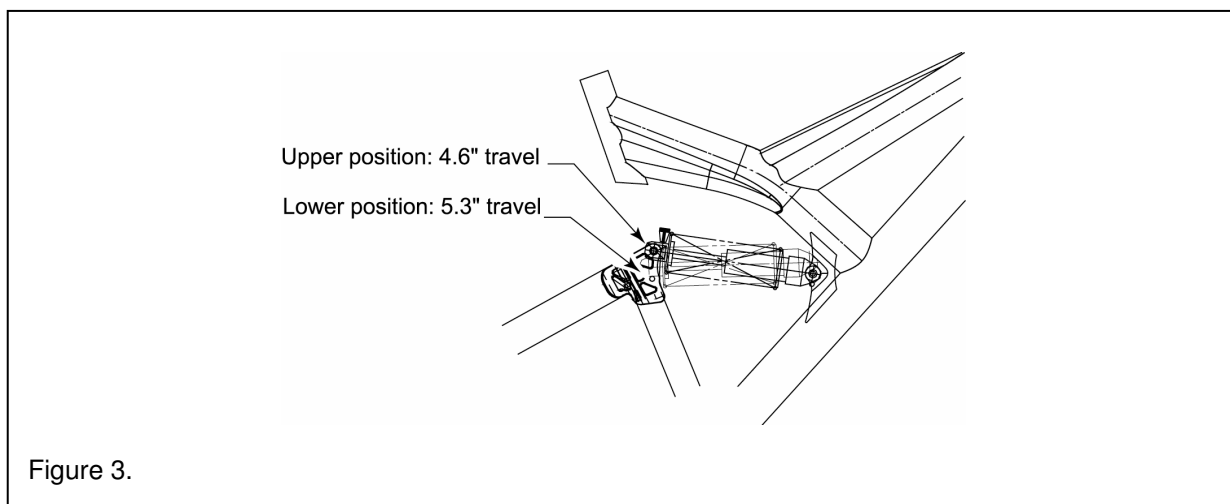

Figure 3.
2. Pivot the top of the shock towards the desired shock mounting holes in the linkage plates. See figure 3 which holes to use for 4.6" and 5.3" rear wheel travel.